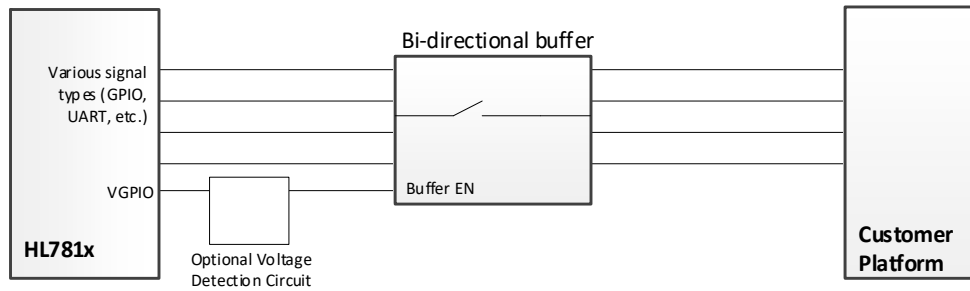
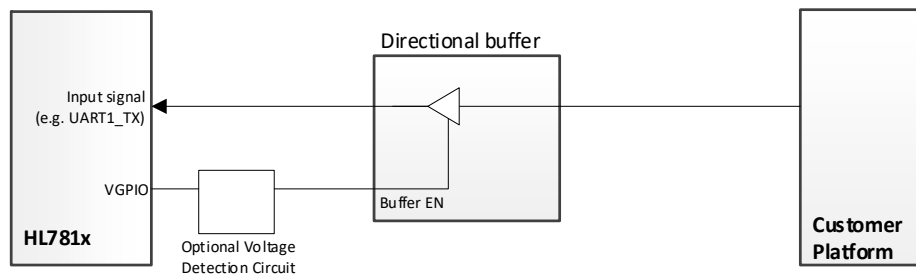

Figure 6-3: Example-Buffer - Bidirectional Signal
Figure 6-4: Example-Buffer - Directional Signal
- Bidirectional (Input/Output) signals— For module I/O signals (e.g. GPIOs), an analog switch that can tri-state both the output and the input can be used (e.g. Texas Instruments TMUX1511). As shown in Figure 6-3, I/O signals connected to the buffer will be tri-stated.
- Directional (Input) signals— For module inputs (e.g. UART1_TX), a logic buffer with output tri-state mode can be used (e.g. Texas Instruments SN74LVC1G126). As shown in Figure 6-4, the signal is controlled and, when disabled, the output signal is tri-stated.
To ensure faster detection of VGPIO transitions, Sierra Wireless recommends adding an optional voltage detection circuit (as shown in Figure 6-3 and Figure 6-4) to monitor and detect the transition low, and then control (enable/disable) the associated buffer circuit.